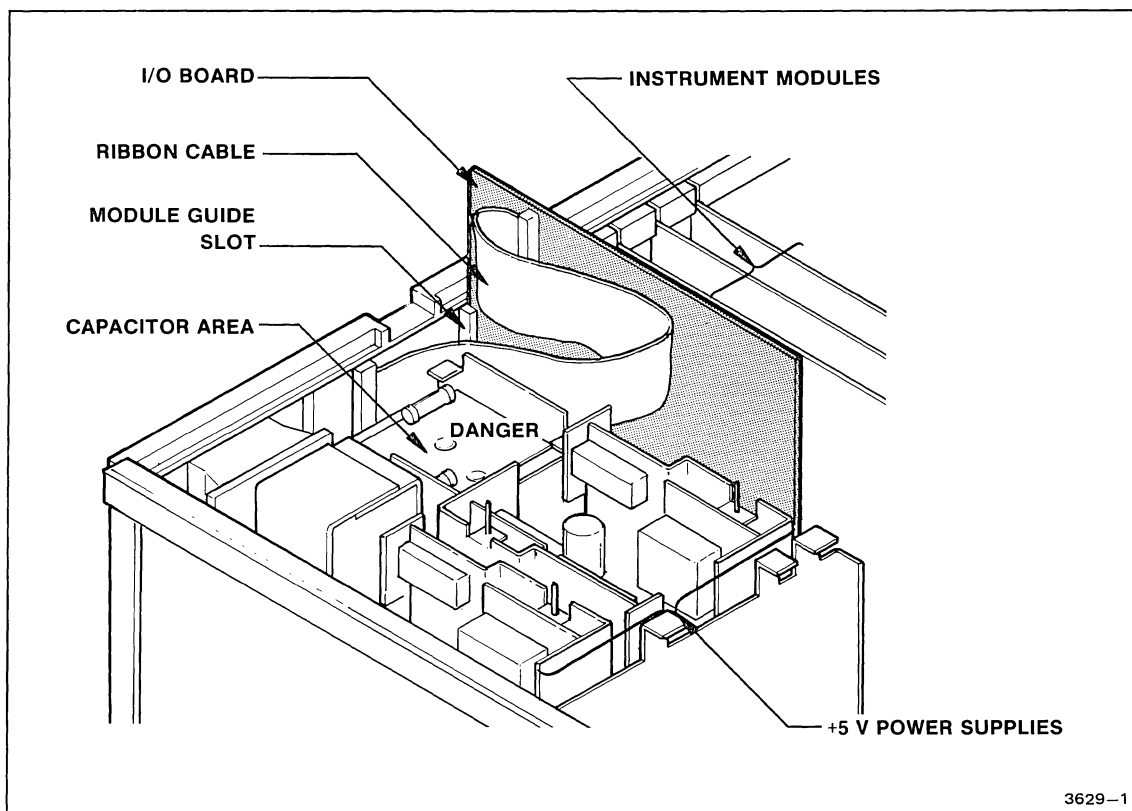

Figure 6-7. Installing the I/O Board. (This figure shows the Monochrome DAS. The Color DAS is similar.)
The I/O interface option consists of a plug-in circuit board and a back panel insert with appropriate connectors and plugs. Install the panel first. Refer to Figure 6-7.
4. Install the I/O connector panel using the screws removed from the blank panel. Position the ribbon cable as shown in Figure 6-7.